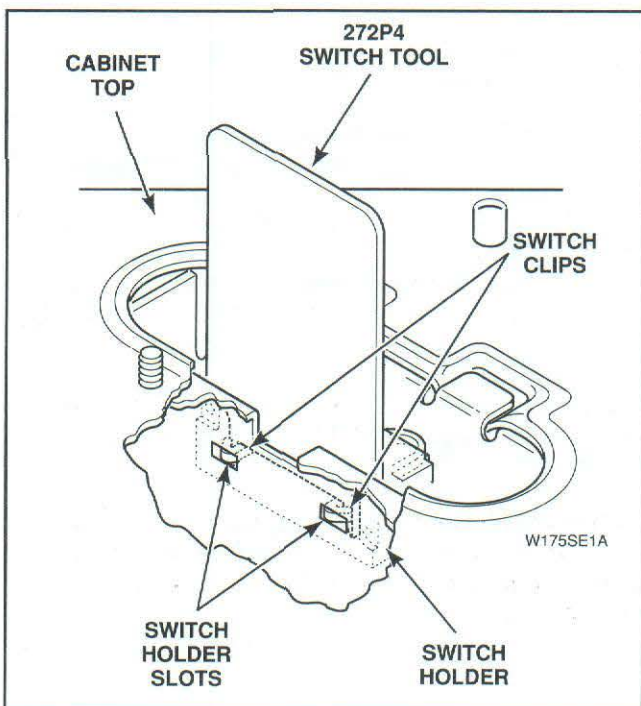

Figure 34
- Carefully place switch down in to switch holder, *Figure 34*; line up the switch clip tabs with slots in switch holder, *Figure 34*.